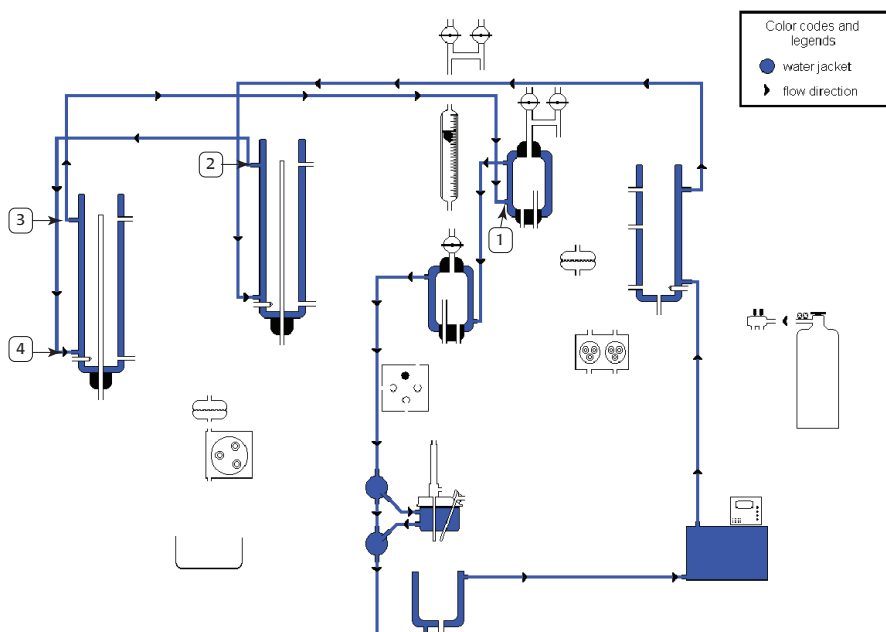

Fig. 65–Water Jacket plumbing diagram.
5. The carbogen circuit should now be configured as diagrammed in Figure 65.
2. Carefully remove the silicone tubing from the water jacket inlet of the atrial chamber (1 on Fig. 65). Use a scalpel or razor blade to cut the tubing off at the inlet. Use the blade to split and remove the piece of tubing remaining on the inlet.
3. Connect the newly opened end of this tube to the water jacket inlet on the bottom of the second perfusion column (4 on Fig. 65). The water jacket outlet of the first perfusion column (2 on Fig. 65) is now connected to the inlet of the second column (4).
4. Connect the extra piece of silicone tubing to the water jacket outlet at the top of the second perfusion column (3 on Fig. 65). Connect the open end of this tubing to the water jacket inlet of the atrial chamber (1 on Fig. 65).